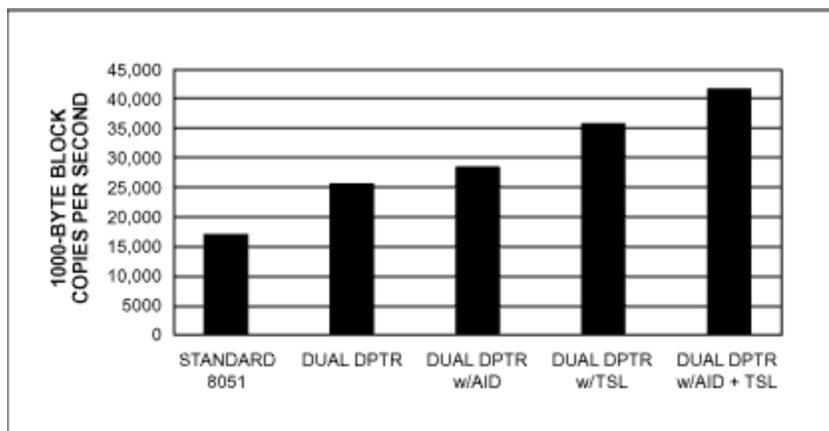

Figure 4. Dual data pointer enhancements improve the speed of block copy operations.
**Figure 4** shows how a 1000-byte block copy routine on a 33MHz DS89C430 takes 33% less execution time when dual data pointers eliminate the overhead associated with juggling a single data pointer. Some members of the high-speed and ultra-high-speed microcontroller families also have additional optional data pointer enhancements. The auto increment/decrement feature (denoted as AID in Figure 4) automatically increments or decrements the data pointer following a MOVX-related instruction, eliminating the need for the INC DPTR instruction. The auto-toggle feature (denoted as TSL in Figure 4) automatically toggles the active data pointer following a MOVX-related instruction, eliminating the instruction that switches between data pointers. Figure 4 shows the relative execution times when all these features are considered together. Note that with all features enabled, the DS89C430 performs a 1000-byte block copy routine 103% faster than the original 8051 microprocessor.